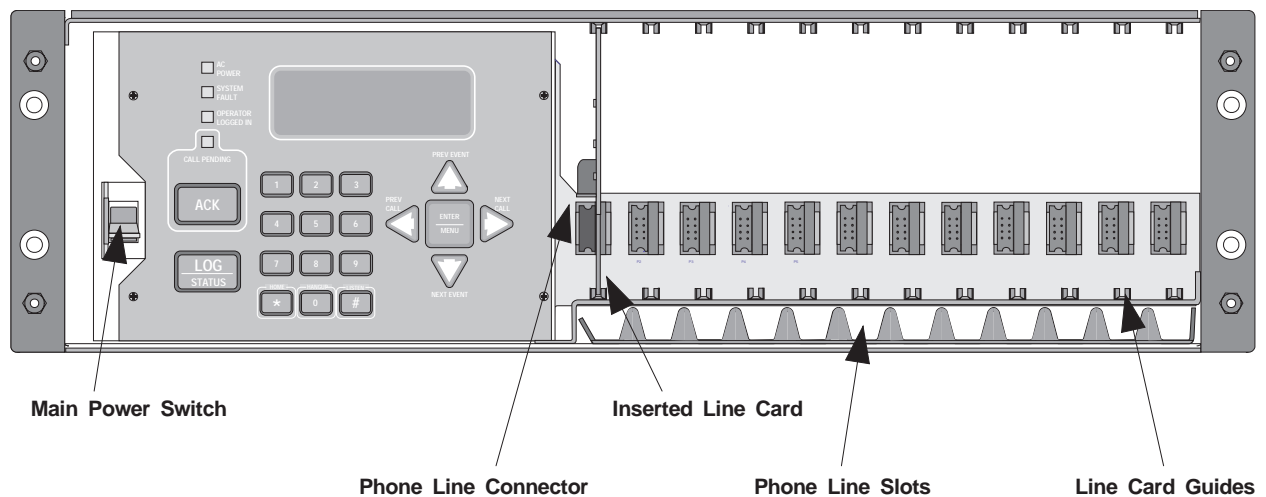

Figure 3-2 Model CS-5000 Front View (Front Plate Removed)
2. Turn off the CS-5000's AC power switch (Figure 3-2).